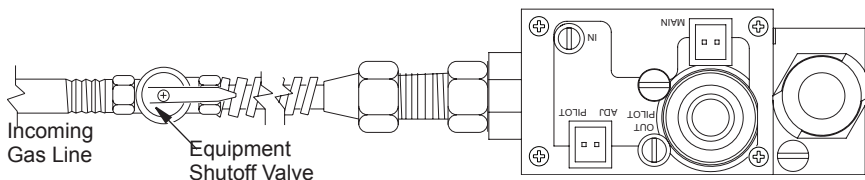

Figure 41 - Turning Equipment Shutoff Valve to the OFF Position
6. Turn equipment shutoff valve clockwise  to the OFF position (see Figure 41). Do not force.
7. Wait five (5) minutes to clear out any gas. Then smell for gas, including near the floor. If you smell gas, STOP! Follow "B" in the safety information, in column 1. If you don't smell gas, go to the next step.